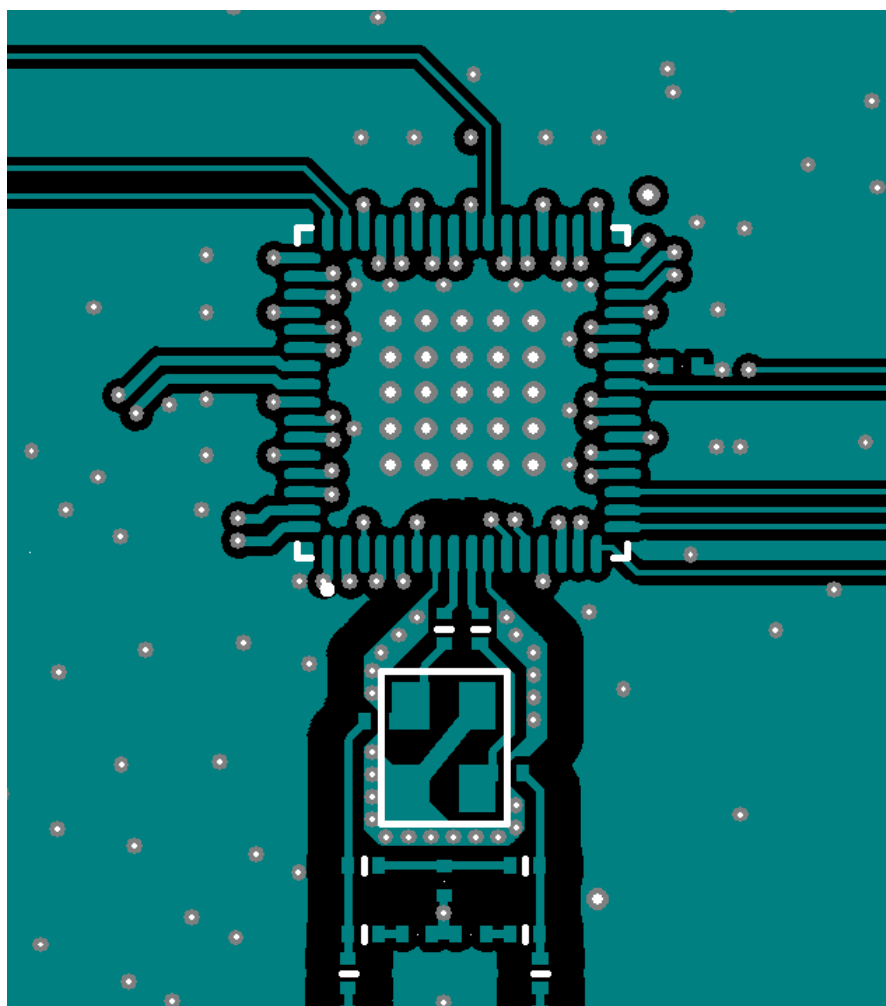
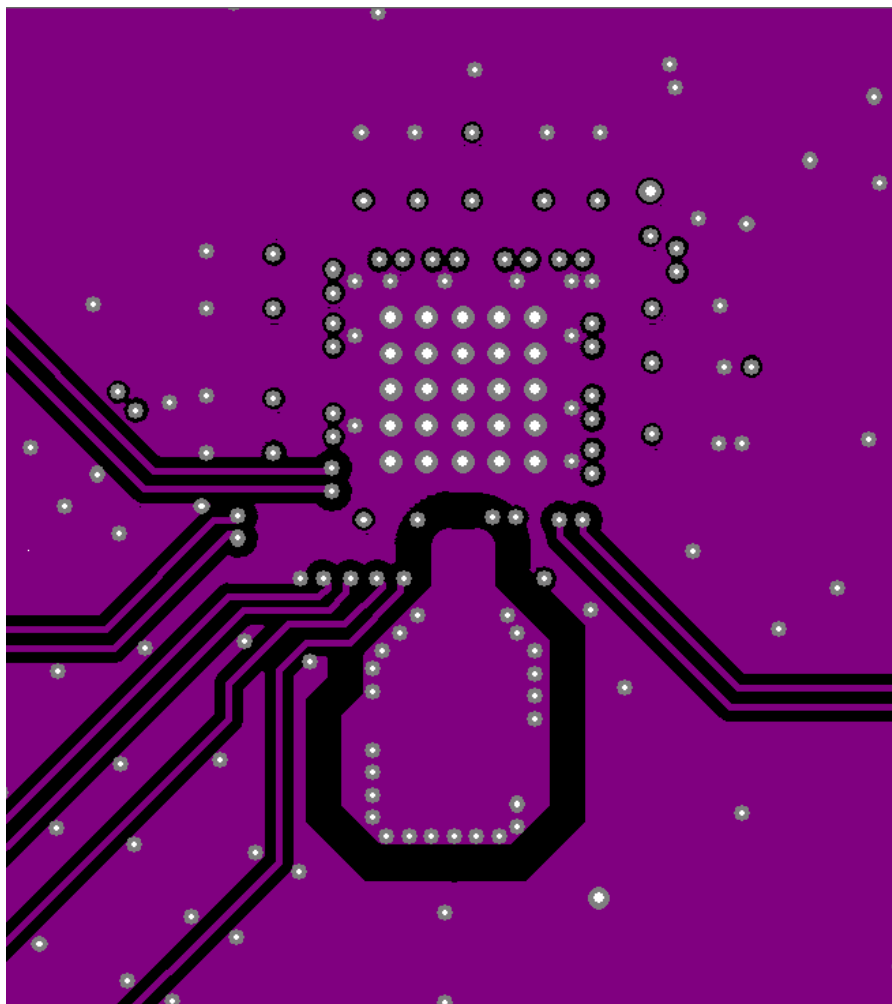

Figure 13.1. 64-pin Si5395 Crystal Layout Recommendations Top Layer (Layer 1)
Figure 13.2. Zoom View Crystal Shield Layer, Below the Top Layer (Layer 2)
3. Connect the crystal's GND pins to the DUT's X1 and X2 pins via a local crystal GND shield placed around and under the crystal. See Figure 13.1 64-pin Si5395 Crystal Layout Recommendations Top Layer \(Layer 1\) on page 77 at the bottom left for an illustration of how to create a crystal GND shield by placing vias connecting the top layer traces to the shield layer underneath. Note that a zoom view of the crystal shield layer on the next layer down is shown in Figure 13.2 Zoom View Crystal Shield Layer, Below the Top Layer \(Layer 2\) on page 78.
Figure 13.2 Zoom View Crystal Shield Layer, Below the Top Layer (Layer 2) on page 78 shows the layer that implements the shield underneath the crystal. The shield extends underneath the entire crystal and the X1 and X2 pins. This layer also has the clock input pins. The clock input pins go to layer 2 using vias to avoid crosstalk. As soon as the clock inputs are on layer 2, they have a ground shield above, below, and on the sides for protection.